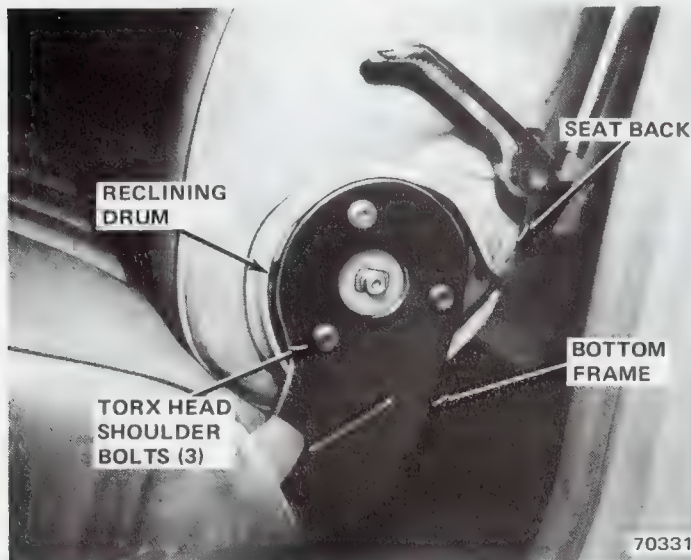

Fig. 3M-4 Tilt Lock Mechanism
- (1) Remove front seat side wing trim panel.
- (2) Remove three screws attaching recliner assembly to seat back outer hinge using Torx Bit Tool J-25359-02 as shown in figure 3M-4.
(3) Insert a screwdriver between the bottom frame and recliner and disengage the seat back from the bottom frame (fig. 3M-5).
(4) Disengage center hinge pivot by pulling the seat back to the outside.
(5) Remove seat back from car.